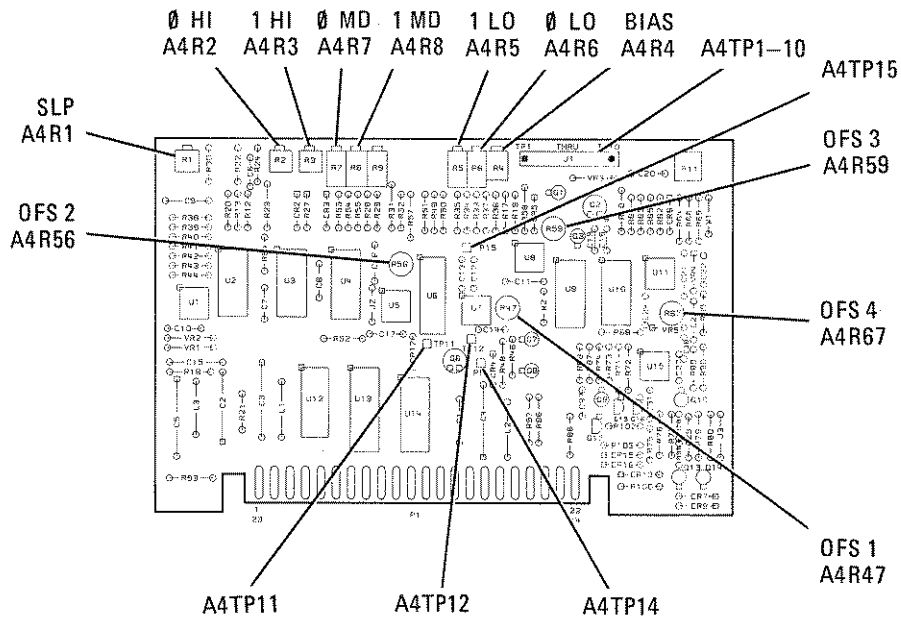

Figure 5-30. ALC Adjustment Locations
2. Float the ground on the Digital Voltmeter and measure the voltage between A4TP12 and A4TP14. Refer to Figure 5-30 for adjustment locations. Adjust A4R47 (OFS 1) for 0.000 ± 0.001 Vdc.